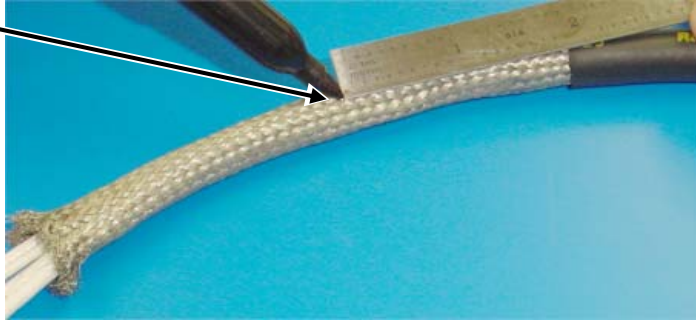

Figure 4. Measuring the Braid
6. If required, verify there is enough exposed braid by measuring and marking the overbraid to indicate 1-1/2 to 2 inches from the end of the heat shrink tubing. See Figure 4.